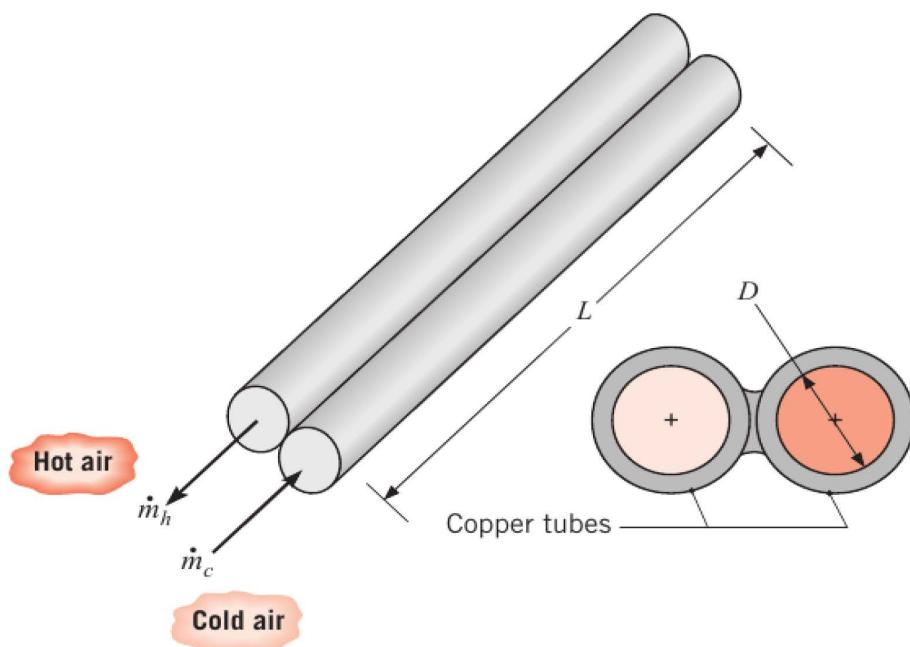

Figure 22: Twin-tube counterflow heat exchanger.
- a) A twin-tube counterflow heat exchanger (Fig. 22) operates with air flow rates of 0.003 kg s^{-1} for both hot and cold streams. The cold stream enters the heat exchanger at 280 K and must be heated to 340 K using hot air that enters the domain at 360 K. The average pressure of the airstreams is 1 atm and the maximum allowable pressure drop for the cold airstream is of 10 kPa. The tube walls may be assumed to act as fins, each with an efficiency of 100%.